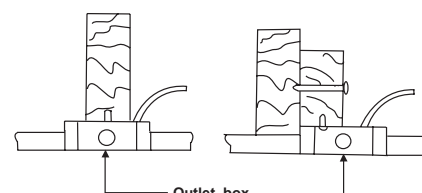

Fig. 2
**Option 2:** Recessed outlet box mounted to the underside of joist. (Fig. 2)
Outlet box mounted to support brace laminated to side of joist. (Fig. 2)